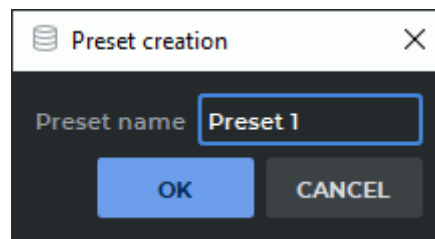

Figure 1.14: The Preset creation dialog box
3. In the **Preset creation** dialog box (Fig. 1.14), enter the name of the new preset.